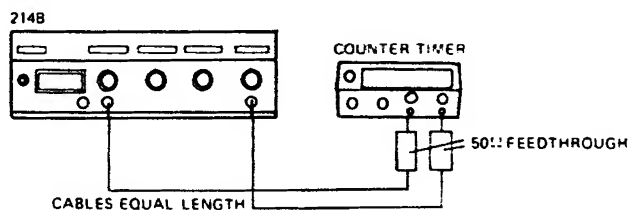

Figure 4–3.
8. Change test setup to that shown in Figure 4–3 to check DELAY RANGES. $.1\mu - 1\mu$ to 1m–10m.